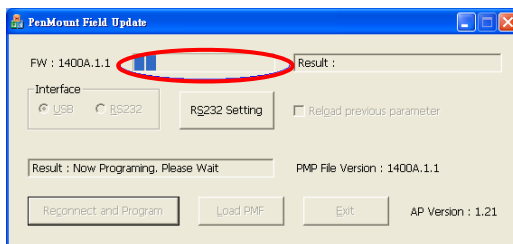

Fig.28
- The firmware will be updated automatically show as in (Fig.28)